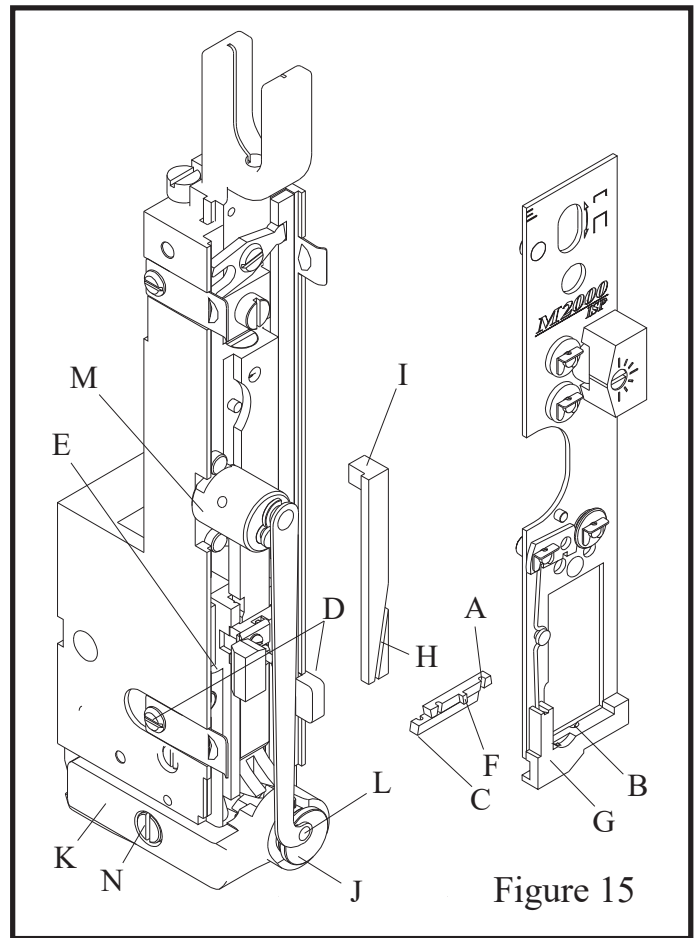

Figure 15
I. Wire Cutters: (Fig. 15)
3. Lift end of spring (Index L, Figure 15) out of rotator.
5. Slip the rotator operating cam (Index M, Figure 15) forward and off the stud.
11. Remove the cutter operating slide (Index I, Figure 15).
L. Rotator (Figure 15)
The rotator holder and rotator operating spring are responsible for alignment of the wire beneath the bender bar grooves. The position of the rotator holder determines how far the rotator is pushed forward under the bender bar by the rotator operating spring (Index L, Figure 15). A weak spring will not push the rotator in far enough and with this improper alignment the bender bar will knock the wire from the rotator or will shear the wire into pieces. To secure proper alignment, check the position of the rotator holder and the tension applied by the rotator operating spring. Make any necessary adjustment of the rotator holder or replace the rotator operating spring if weak.
3. Loosen the rotator holder screw (Index N, Figure 15).